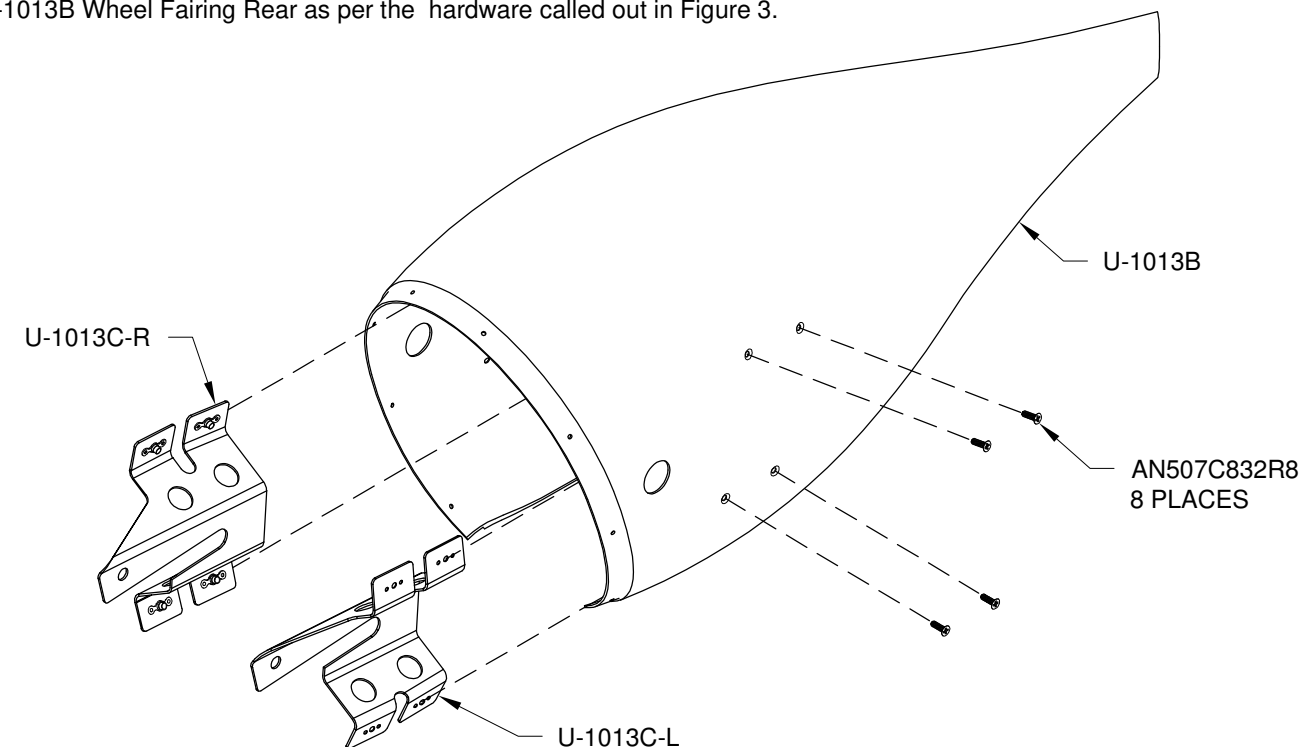

FIGURE 3: ATTACHING NOSE WHEEL - FAIRING BRACKETS
Step 3: Attach the U-1013C-L/R Nose Wheel - Fairing Brackets to the U-1013B Wheel Fairing Rear as per the hardware called out in Figure 3.